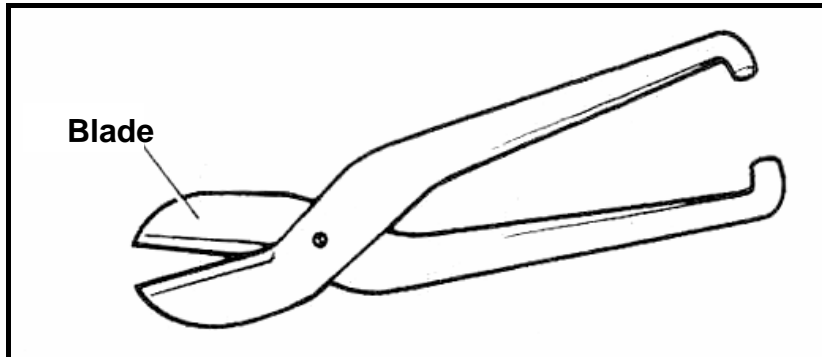

FIGURE 4.1
4.1 FIGURE 4.1 shows tin snips. Answer the questions that follow.